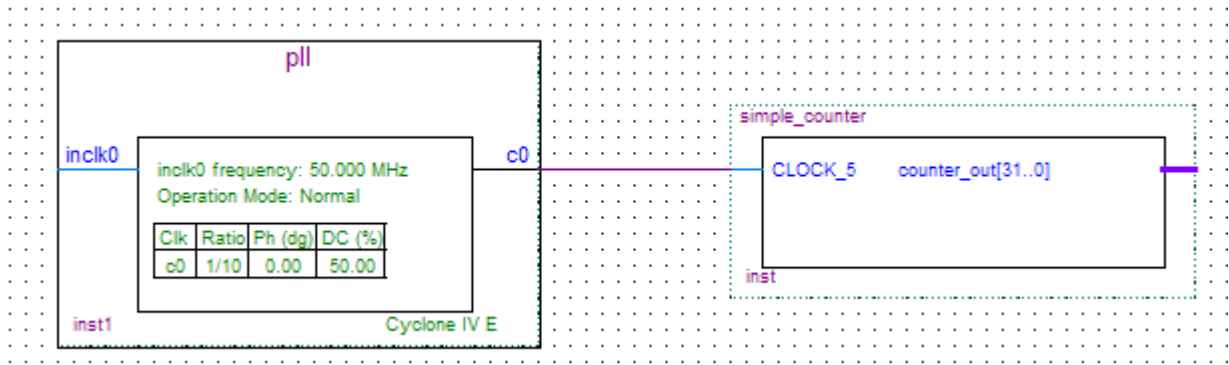

Figure 6-27 Draw a Bus Line connect pll c0 port to simple_counter CLOCK_5 port
13. Click and drag a bus line from the c0 output to the simple_counter clock input. This action ties the pll output to the simple_counter input (see **Figure 6-27**).